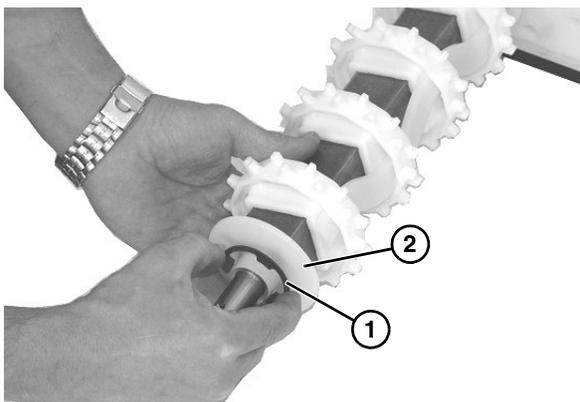

Figure 38
10. Remove retaining clip (**Figure 38, item 1**) and flanged puck (**Figure 38, item 2**) from drive spindle.